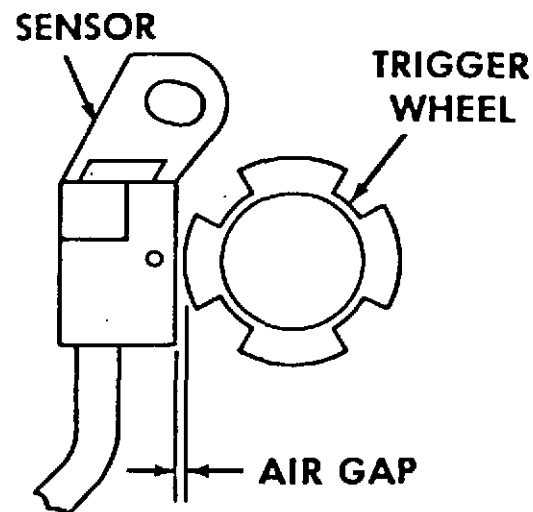

Figure 49. TRIGGER WHEEL TO SENSOR AIR GAP
- a. Rotate trigger wheel until one tooth is aligned with centerline of sensor (trigger wheel tooth perpendicular to flat surface of sensor) (Figure 49.)
- b. Using feeler gauge, measure air gap between sensor and end of tooth (Figure 49.) Move sensor as needed to obtain specified air gap (.02 mm - .008"). Tighten sensor mounting screw and recheck air gap.